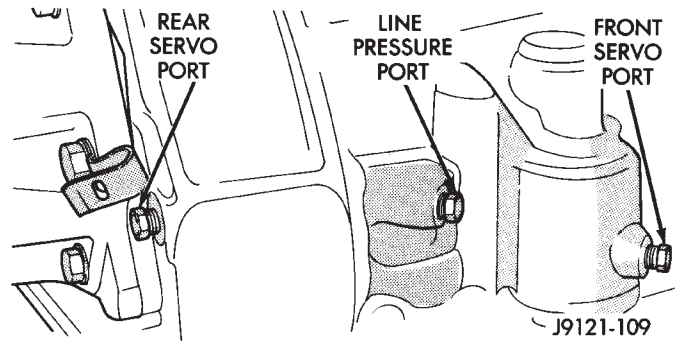
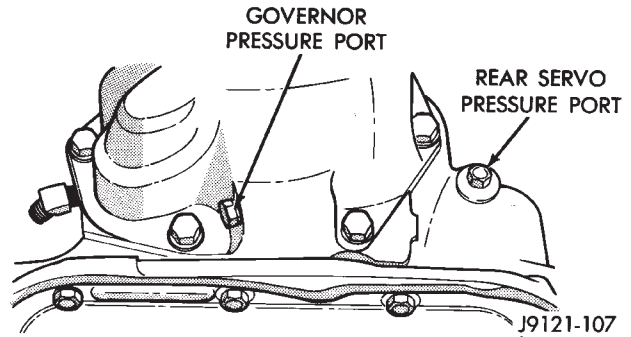
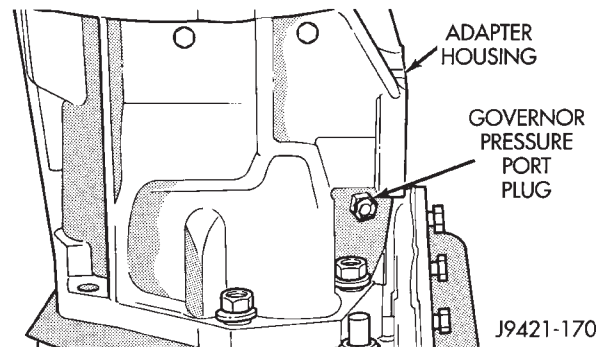

Fig. 6 Pressure Test Ports At Side Of Case
Fig. 7 Pressure Test Ports At Rear Of Case—2WD
Fig. 8 Pressure Test Ports At Rear Of Case—4WD
Pressure test ports locations are provided at the accumulator, front servo, and rear servo, governor passage, and overdrive clutch pressure passage (Fig. 6), (Fig. 7) and (Fig. 8).
- (1) Connect 100 psi Gauge C-3292 to accumulator port.
- (2) Connect 300 psi Gauge C-3293-SP to rear servo port (Fig. 6) and (Fig. 7).
- (3) Disconnect throttle and gearshift rods from manual and throttle levers.
- (4) Start and run engine at 1000 rpm.
- (5) Move shift lever (on manual lever shaft) all the way forward into 1 range.
- (6) Move transmission throttle lever from full forward to full rearward position and note pressures on both gauges.
- (7) Line pressure at accumulator port should be 54-60 psi (372-414 kPa) with throttle lever forward and gradually increase to 90-96 psi (621-662 kPa) as lever is moved rearward.
- (8) Rear servo pressure should be same as line pressure within 3 psi (20.68 kPa).
- (1) Connect test gauge to accumulator pressure port (Fig. 6) and (Fig. 7).
- (2) Start and run engine at 1000 rpm.
- (3) Move shift lever on valve body manual lever shaft, one detent rearward from full forward position. This is 2 range.
- (4) Move transmission throttle lever from full forward to full rearward position and read pressure at both gauges.
- (5) Line pressure should be 54-60 psi (372-414 kPa) with throttle lever forward and gradually increase to 90-96 psi (621-662 kPa) as lever is moved rearward.
- (1) Connect test gauges to accumulator and front servo ports (Fig. 6) and (Fig. 7). Use either test gauge at the two ports.
- (2) Start and run engine at 1600 rpm for this test.
- (3) Move selector lever to D range. This is two detents rearward from full forward position.
(4) Read pressures on both gauges as transmission throttle lever is moved from full forward to full rearward position.
(5) Line pressure should be 54-60 psi (372-414 kPa) with throttle lever forward and gradually increase as lever is moved rearward.
(6) Front servo is pressurized only in D range and should be same as line pressure within 3 psi (21 kPa) up to downshift point.
- (1) Connect 300 psi gauge to rear servo port (Fig. 6) and (Fig. 7).
- (2) Start and run engine at 1600 rpm for test.
- (3) Move valve body selector lever four detents rearward from the full forward position. This is Reverse range.
- (4) Move throttle lever all way forward then all way rearward and note gauge readings.
- (5) Pressure should be 145 - 175 psi (1000-1207 kPa) with lever forward and increase to 230 - 280 psi (1586-1931 kPa) as lever is moved rearward.
- (1) Connect 100 psi Test Gauge C-3292 to governor pressure port (Fig. 6) and (Fig. 7).
- (2) Move shift lever to D range.
- (3) Start and run engine at curb idle speed and note pressure. At idle and with vehicle stopped, pressure should be zero to 1.5 psi maximum. If pressure exceeds this figure, governor valve or weights are sticking open.
- (4) Slowly increase engine speed and observe speedometer and pressure test gauge. Governor pressure should increase in proportion to vehicle speed.
- (5) Pressure rise should be smooth and drop back to 0 to 1.5 psi when wheels stop rotating.